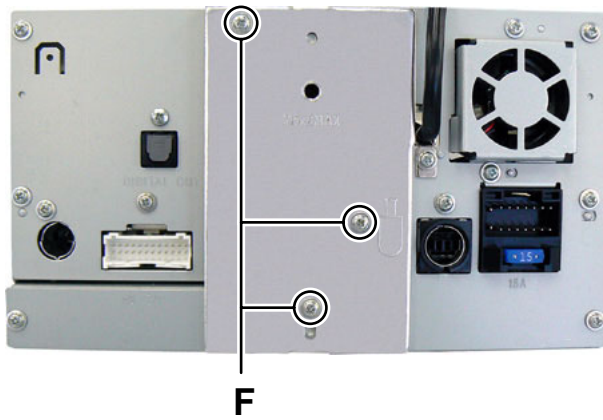

Fig.7
### 3.1.3 Removing the Rear bracket (See Fig.7 to 9)
- (1) Remove the three screws **F** attaching the Rear heat sink. (See Fig.7)